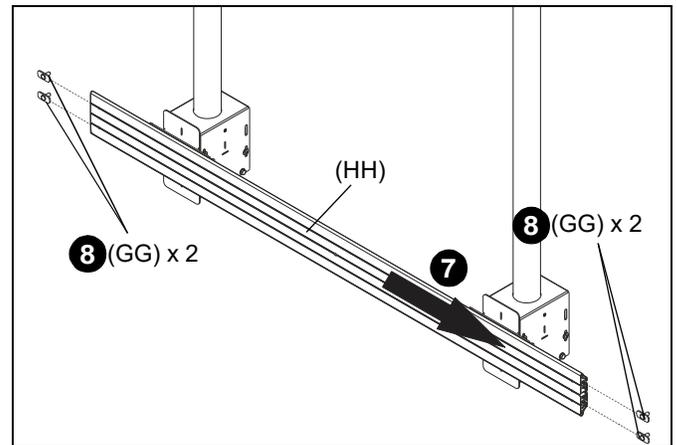

Figure 7
- Slide 2 x 1 rail (HH) onto second assembly (H) attached to column. (See Figure 7)
- Slide two wind shield connectors (GG) into back grooves on 2 x 1 rail (HH) on each side. (See Figure 7)